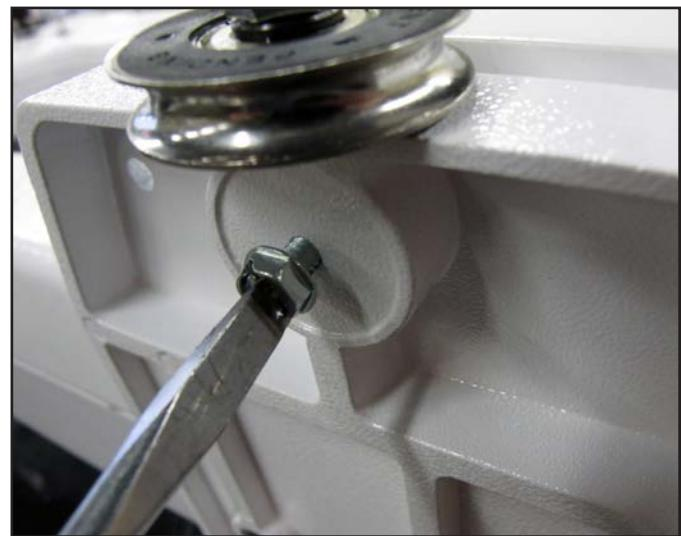

Figure 3.7
1. Carefully lay the quilting machine on its power pod side (*the left side, looking from the front*). Underneath the base plates, near the wheels on the C-Pod side of the machine (*the side with the thread tensioner and guides*) there will be either two screws or two holes. If the screws are there, use a large slotted (*flat*) screwdriver to remove the screws (see **Figure 3.7**).